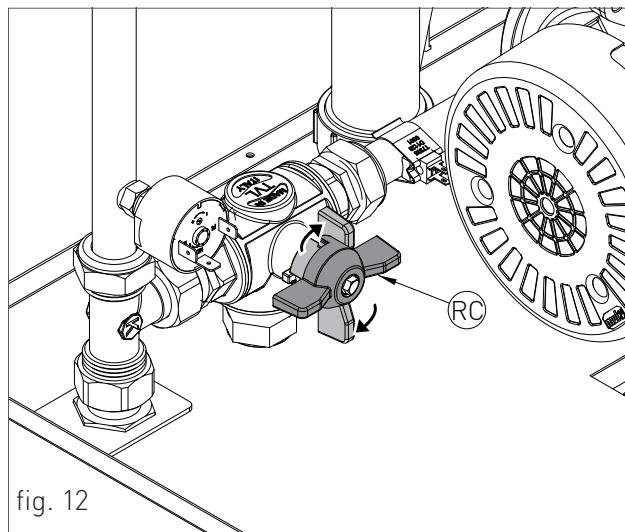

fig. 12
- › Turn the three-way valve to the “recirculation” position, as shown in Figure 12 as ‘RC’.